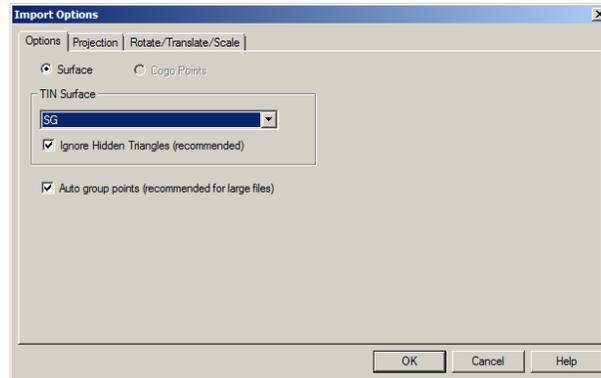

Figure 14: LandXML Import Options dialog
- When the LandXML *Import Options* dialog appears, choose the options as shown in Figure 14 below. Press OK.